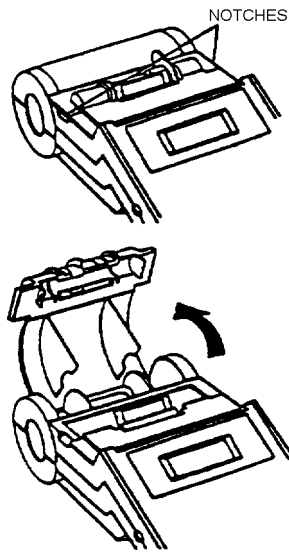

Figure 15. Printer Cover
a. Release cover of printer by placing fingers in notch under cover on both sides of printer and pull-up. Lay cover back until it rests on hinges (Figure 15)